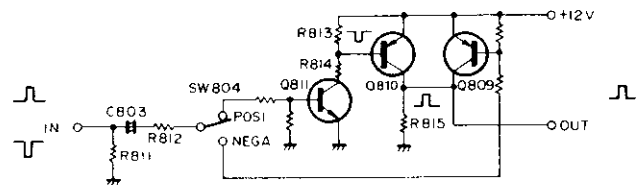

Fig. 28. Positive/Negative Polarity Select Circuit
When POS/NEG switch SW804 is set to posi- and a positive pulse is applied to the input (IN) in Fig. 28, the pulse is switched by Q811 and Q810 and a positive pulse is obtained from the output (OUT). When a negative pulse is applied and switch SW804 is set to negative, Q809 is switched and a positive output is obtained.